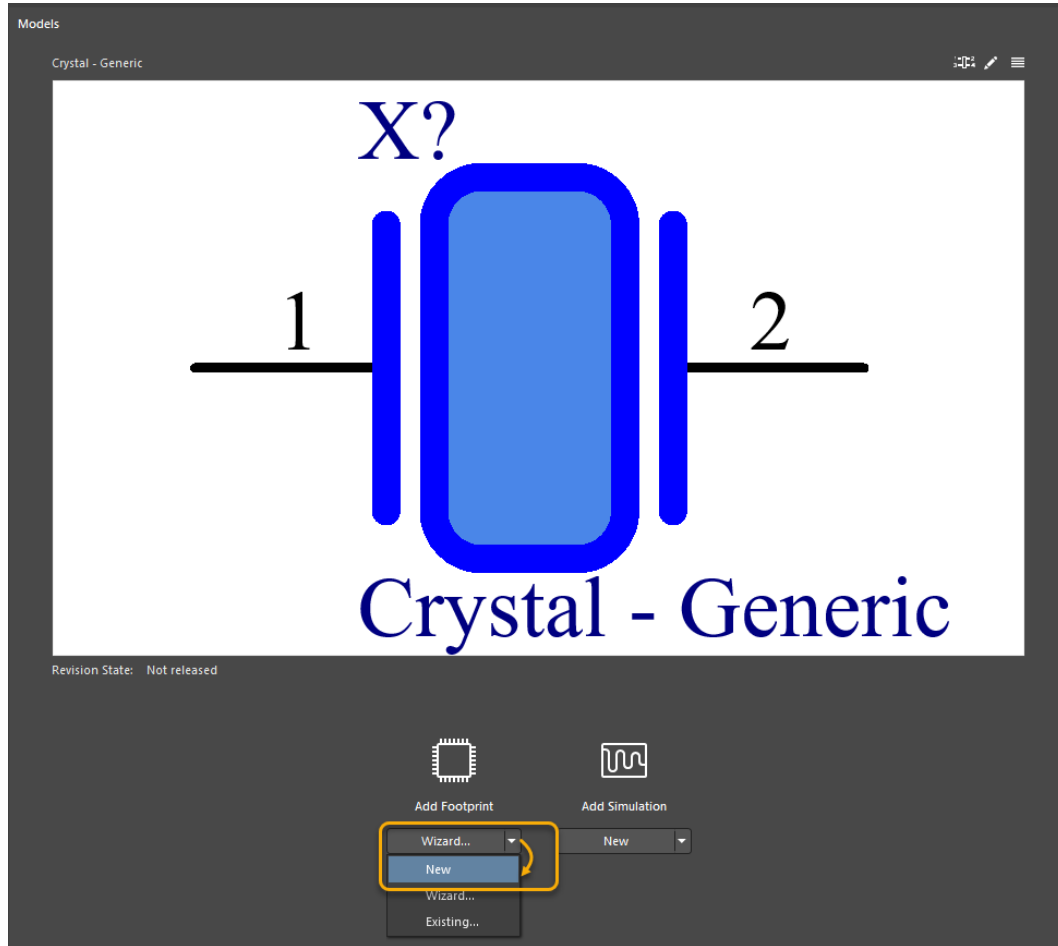

Figure 20. Creating New Footprint
33. From the **ADD Footprint** of the Models section, from the dropdown list select **New**. See Figure 20